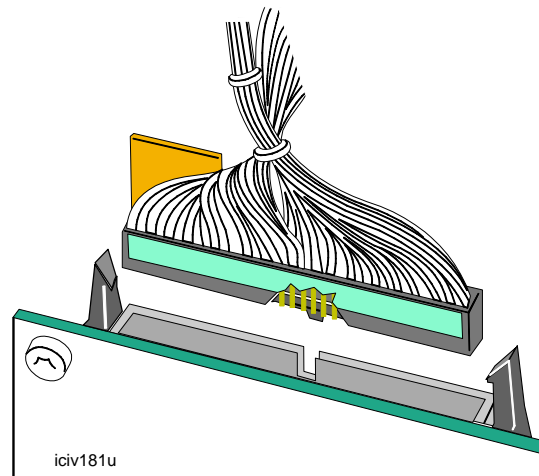

Figure 7-19: Align the cable notch with the slot
- 6 Align the connector and the receptacle with the green label away from the printhead. The connector fits into the receptacle in only one way, as shown in Figure 7-19.